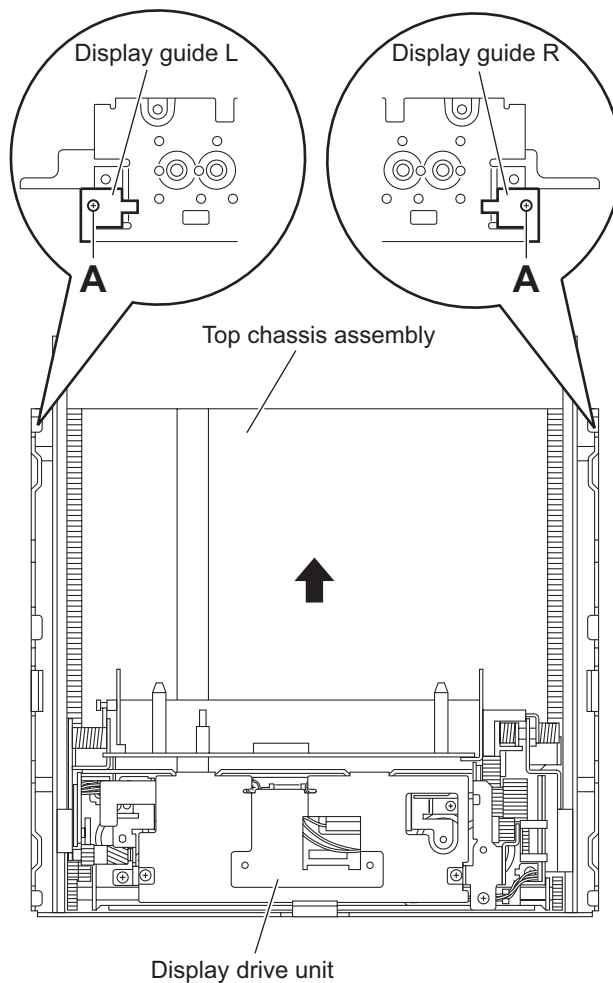

Fig.1
3.2.1 Removing the display drive unit (See Fig.1)